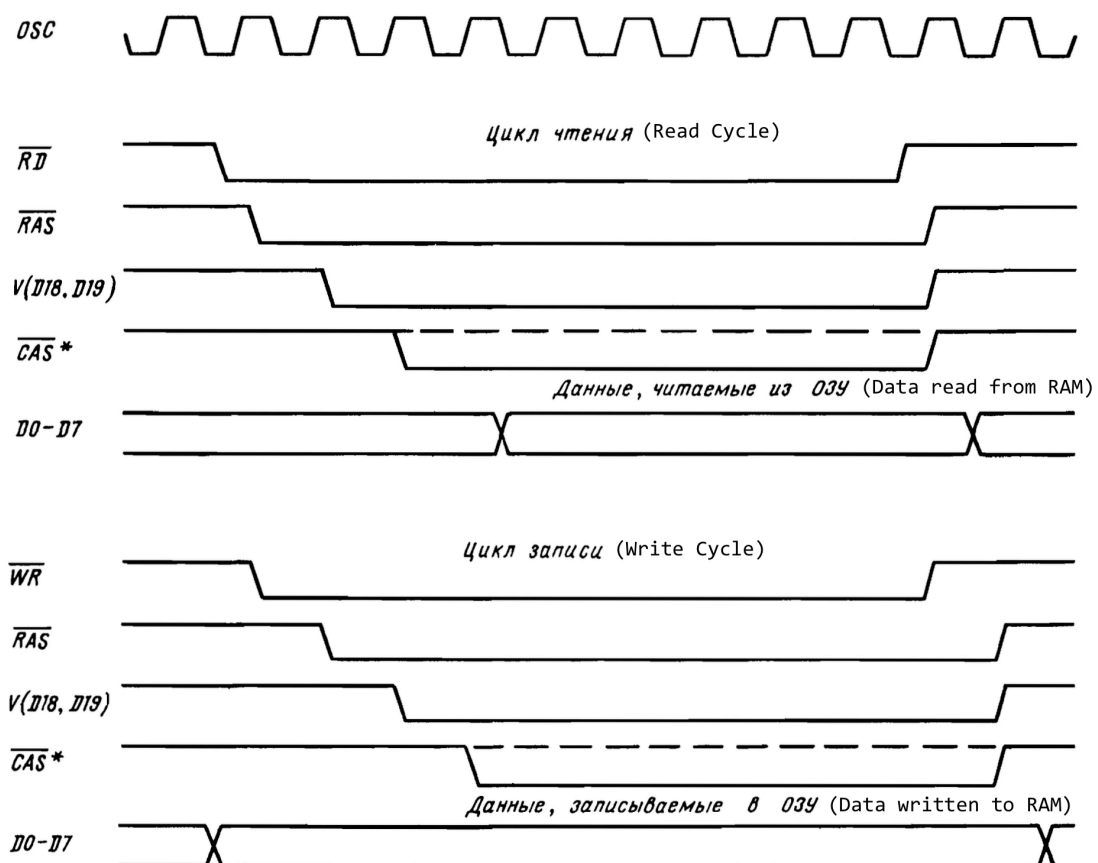

Figure 2.15. Timing Diagram of Signals During RAM Read and Write Operations
To do this, check the presence and shape of signals at the RAS, CAS, and WE inputs of the memory microchips and at the V inputs of address multiplexers D18 and D19 (see Figure 2.15). Note that the CAS signal becomes active (0) only in the presence of a reset signal from the “РУС/ЛАТ” (RUS/LAT) key.